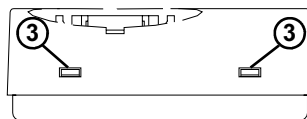

Fig. 2
1. First remove the dial by inserting a small screwdriver in the slot (2) and lifting the dial off carefully.
2. Remove the front cover by disengaging the two plastic teeth on the right hand side of the case as shown in figs. 2 & 3.